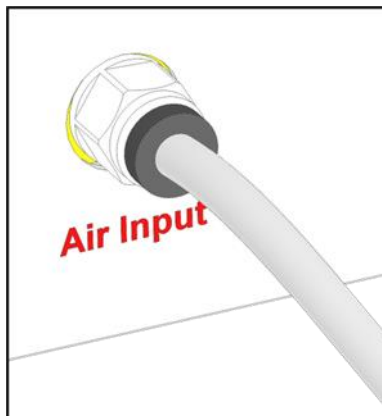

Figure 10. How to connect tubing to push to fit connector.
3. Connect CO₂ and air supply to the corresponding push to fit connectors on the rear panel of CO₂-UNIT-BL by using TUBE-A (see Figure 10).